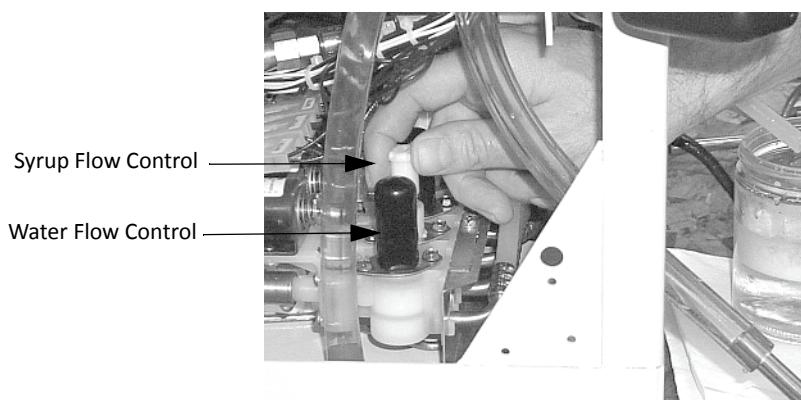

Figure 10.
7. If reading is out of specification the syrup level needs to be adjusted. **Never** change the Water Flow Control setting to adjust Brix (Figure 10.)